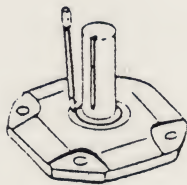
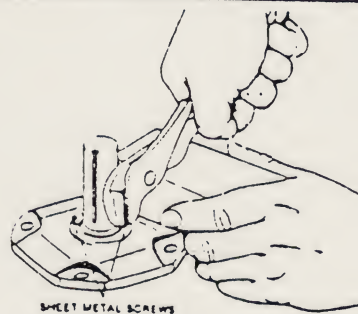

Figure 1
Figure 2
- C. See Figures 1 through 4 — To replace seals without dismantling reducer, proceed as follows:
Do not damage shaft; new seals will leak if seal contacting surface is marred. Use punch and place two or more holes in steel casing of seal, Figure 1. (The steel casing may be rubber coated) Insert sheet metal screws, leaving the heads sufficiently exposed so they can be pried up or grasped with pliers, Figure 2. Do not drill holes because chips may get into the unit.